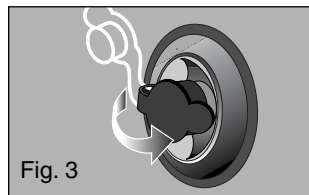

Fig. 3
4. Close the Double-Lock™ Release Valve by pushing inward to activate the internal seal and then close the cap (see Figure 3).